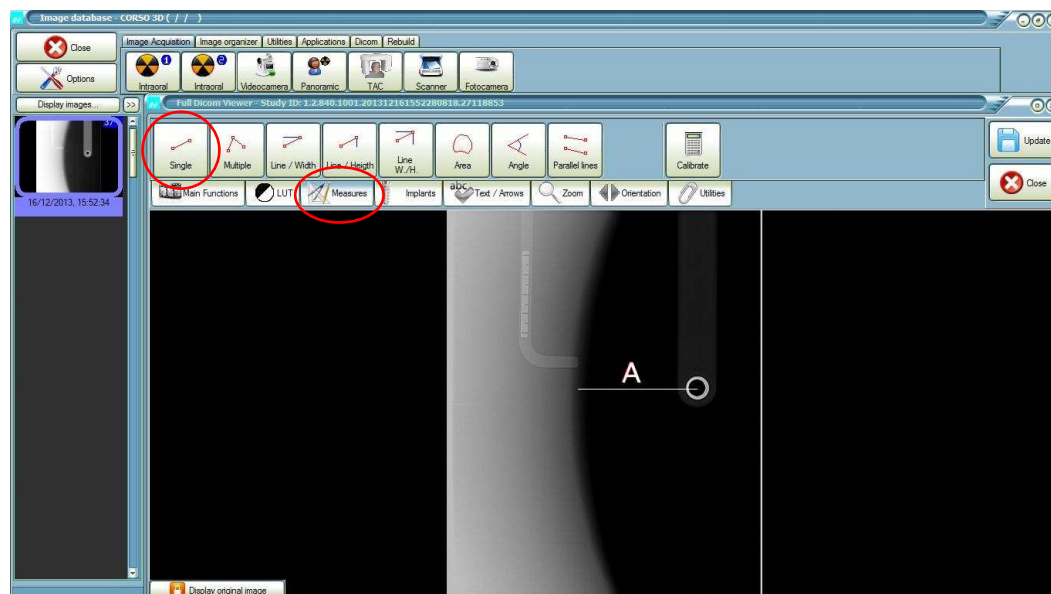

Figure 7-14
8. Select from the menu "Measure" the icon "Single" and measure the distance "A" (Figure 7-14) between the Soft Tissue Filter (STF) edge and the center of the rings; perform the measure in "mm".